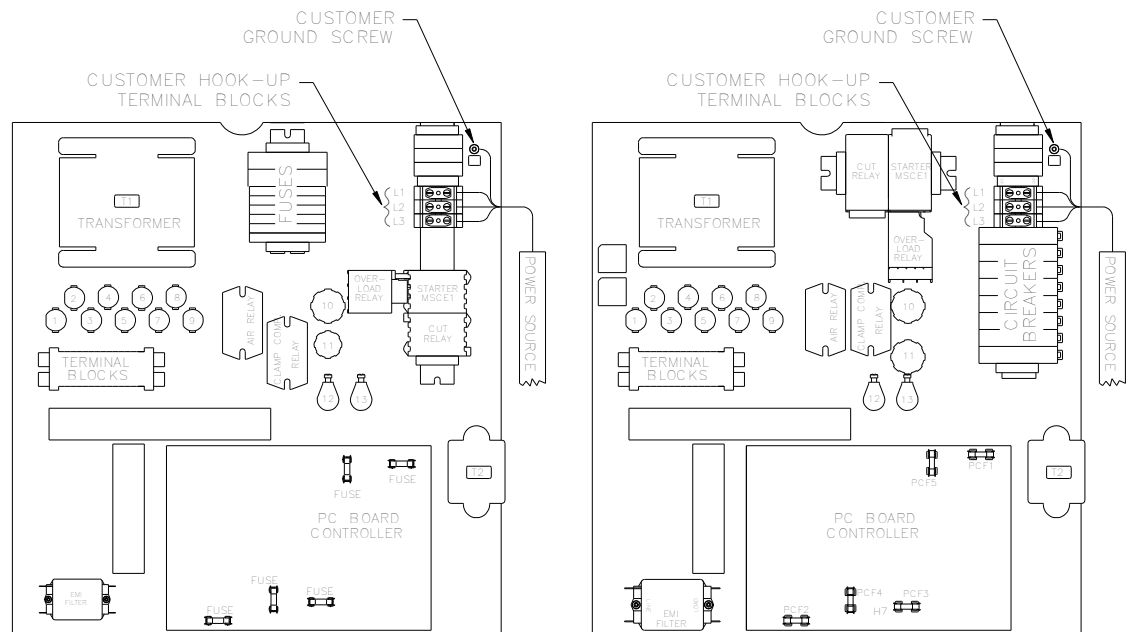

Figure 4
3. Fasten the ground lead to the ground terminal lug (Figure 4).